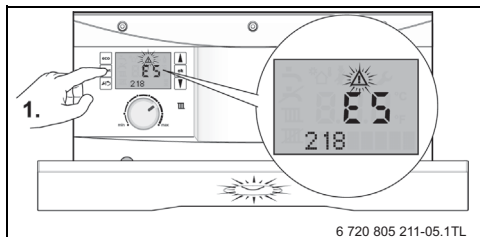

Fig. 8
1. A fault condition is indicated by a flashing blue operation/fault light and a triangular alert symbol on the display. A flashing **fault code** is also displayed, see figure 8.
- ▶ Make a note of these fault codes, in the table below as an example see figure 8, fault codes E5 and 218.